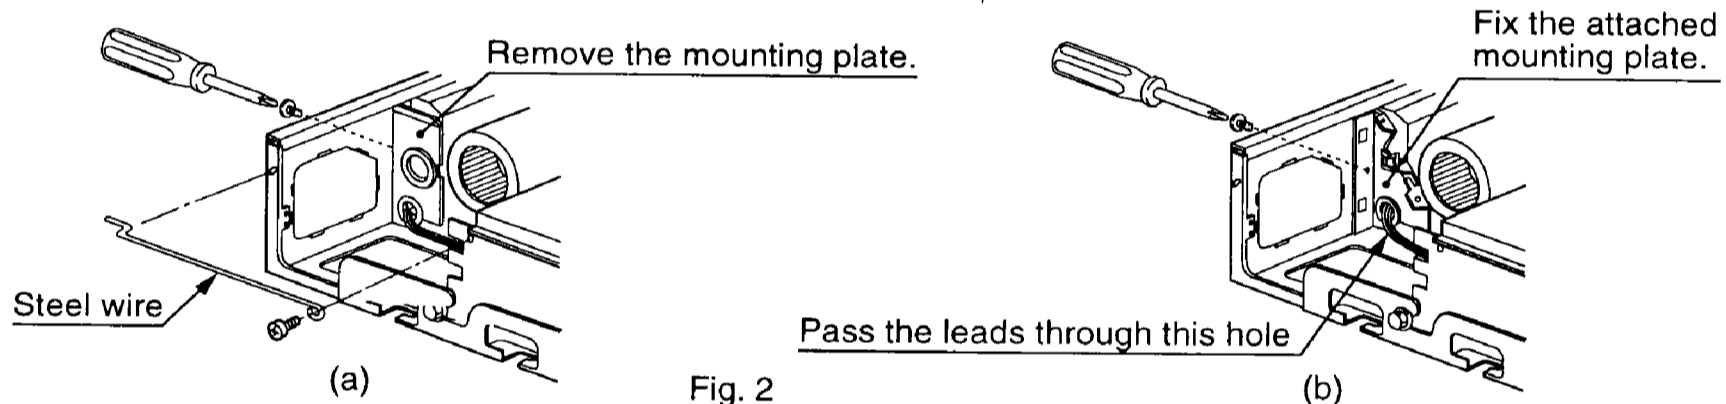

Fig. 2
- (2) Remove the mounting plate and steel wire off the air conditioner. (Fig. 2(a))
- (3) Fix the attached drain pump kit mounting plate. Pass the lead wires (swing motor lead wire, etc.) through the plates hole. (Fig. 2(b))